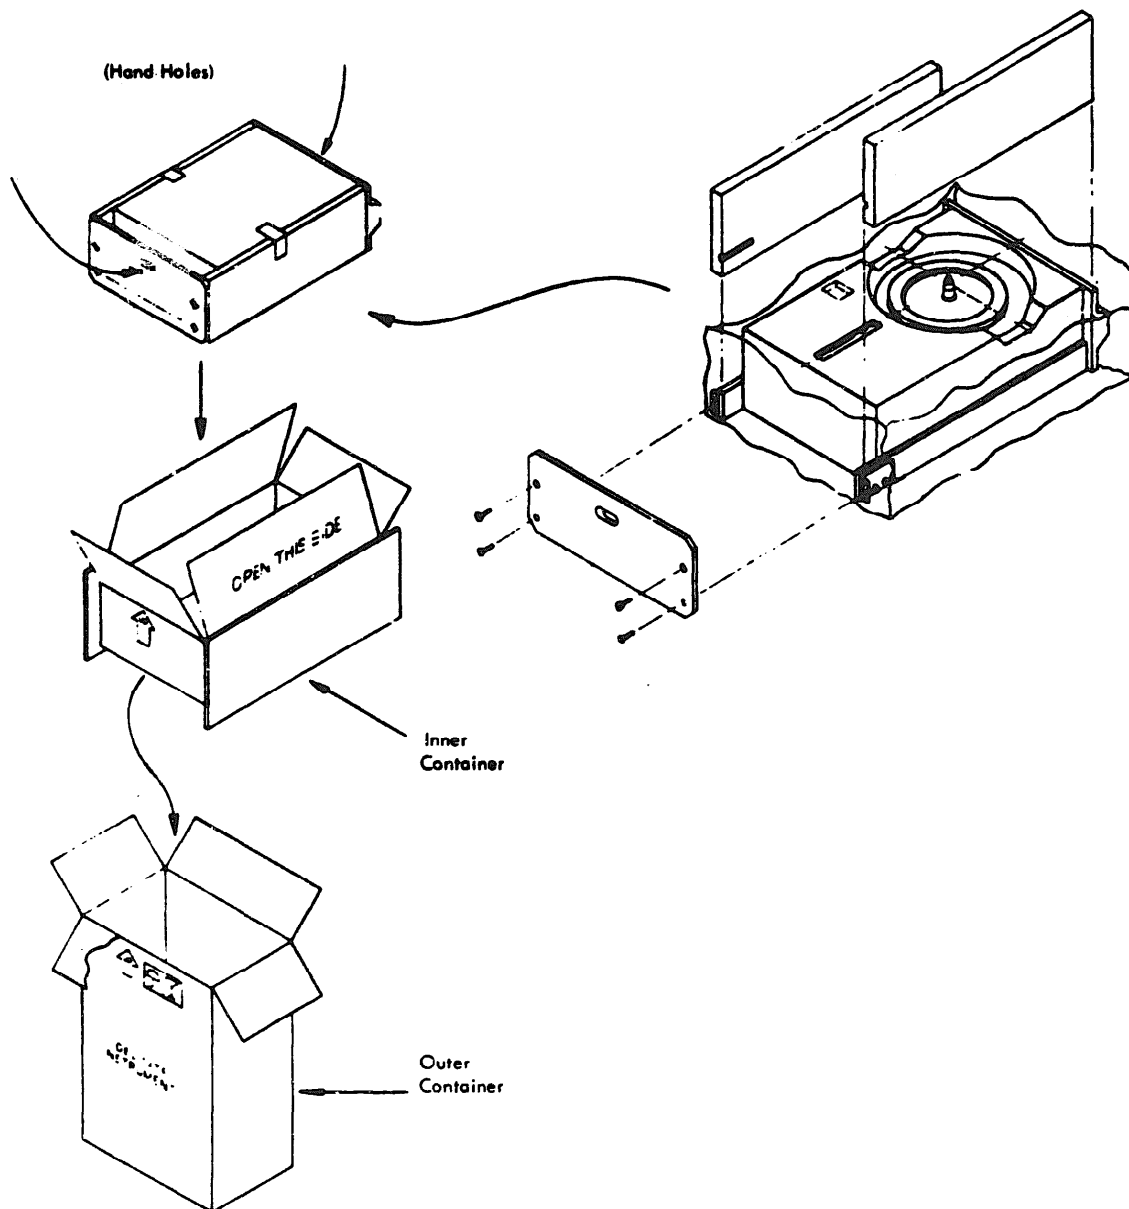

Figure 2-1. Model 303 Shipping Container
- Package by reversing procedure as outlined in paragraph 2.1 (Ref: Figure 2.1).